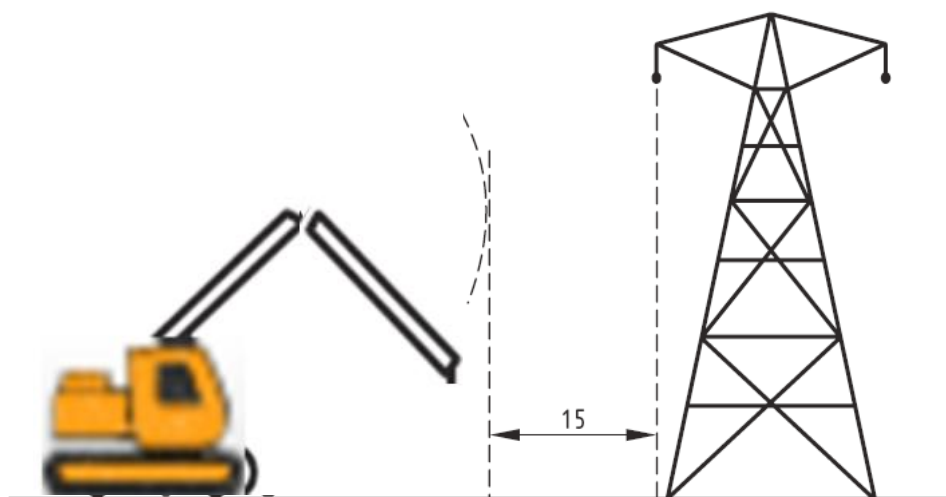

Figure 1 - Safe Distance (metres) from Power Lines in excess of 33kV on Steel Towers
- When in operation maintain the minimum safe distances from electrical power lines and apparatus in accordance with the applicable governmental regulations and Figures 1 and 2 below.